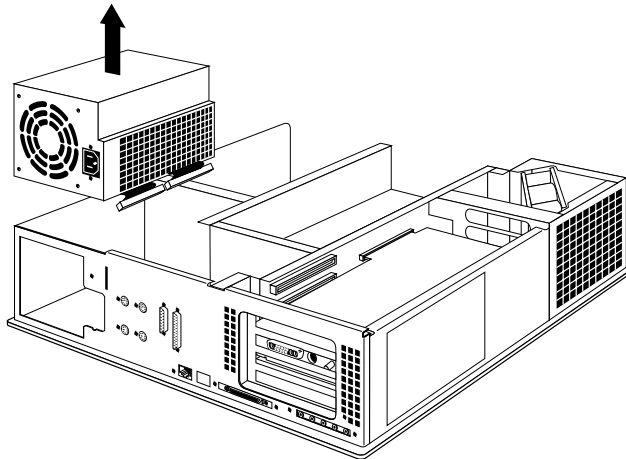

Figure 8-25 Removing the Power Supply From the Indigo² Chassis
- Lift the power supply up and out of the chassis, as shown in Figure 8-25.